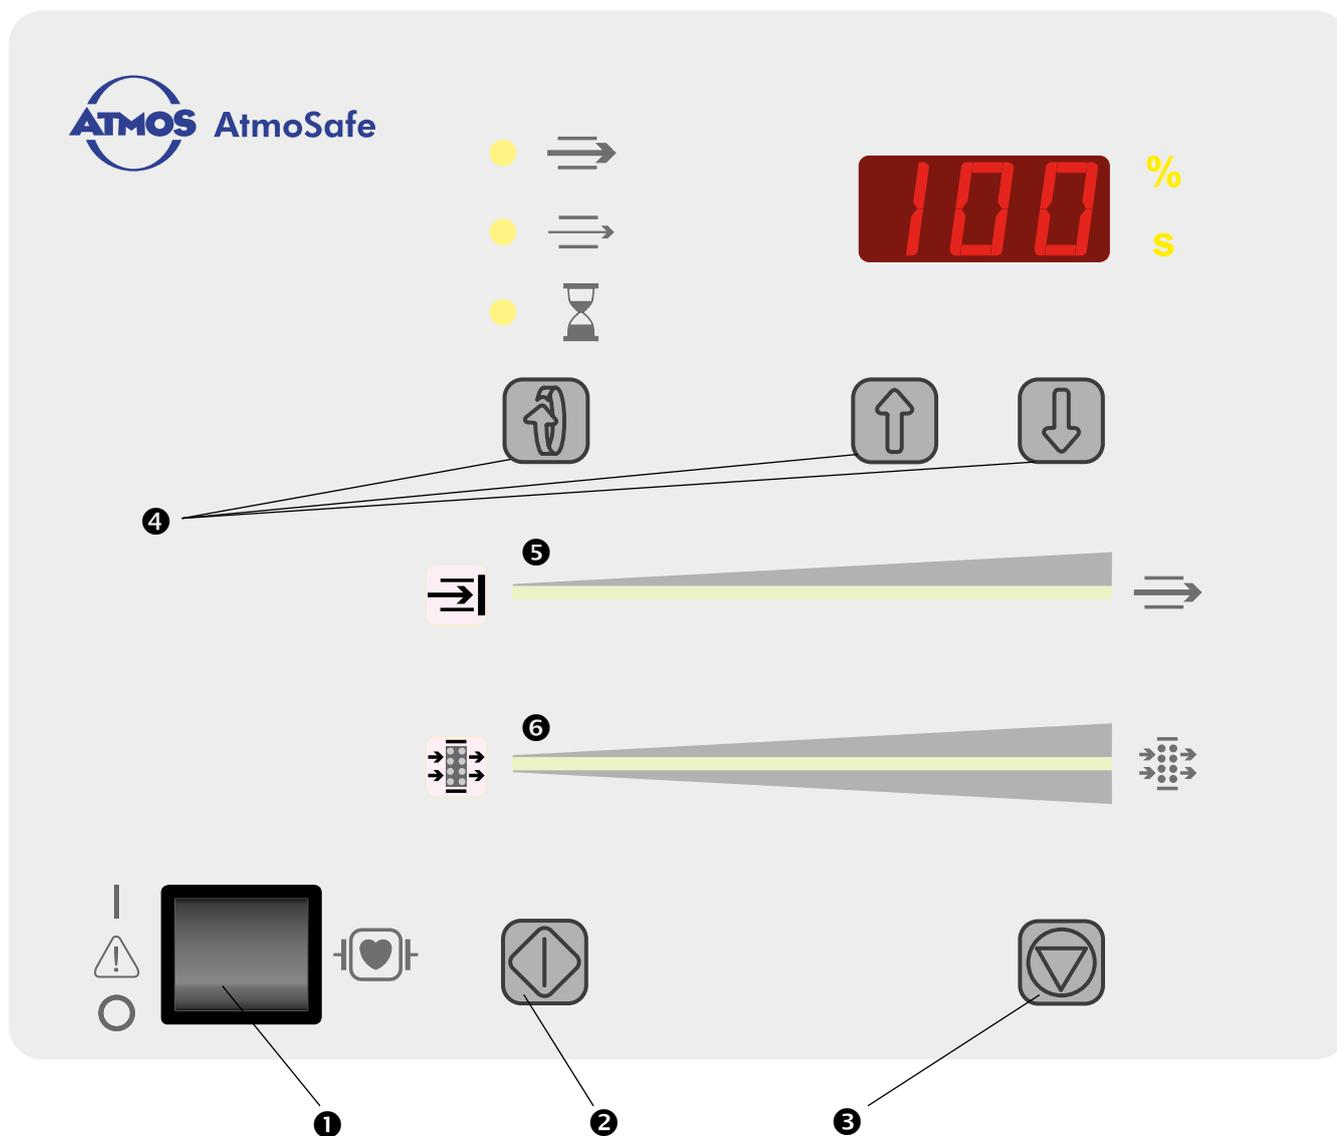

Fig. 2. Display and control elements
- Switch on the AtmoSafe by means of power switch (●, Fig.2, p. 16).
You will reach the service level by pressing the SCROLL button (👆, Fig. 2, p. 16) and then switching on the device by means of the power switch (🔌, Fig. 2, p.16). Then in the display will appear: